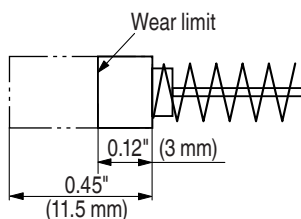

Fig. 12
4. Inspecting the carbon brushes (Fig. 12)